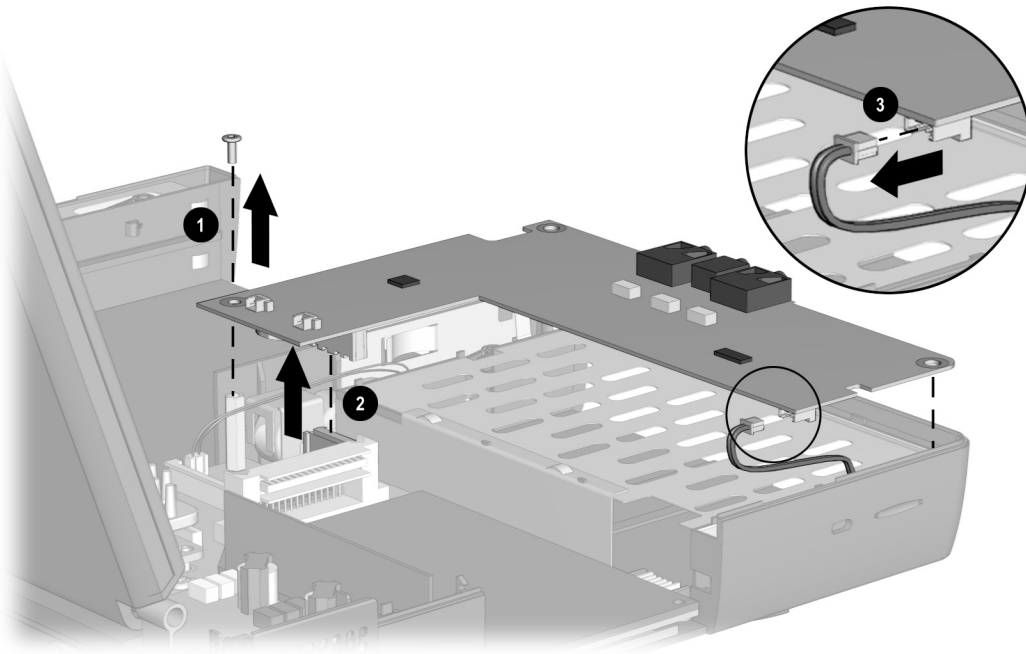

Figure 5-39. Removing the Audio Board Screw and Disconnecting the Audio Board
6. Remove the screw ❶ that secures the audio board to the standoff mounted on the system board. (Figure 5-39).
7. Partially lift up on the rear/right edge of the audio board ❷ to disconnect it from the system board. Hold the board slightly above the base assembly.
8. Disconnect the microphone cable ❸ from the audio board.